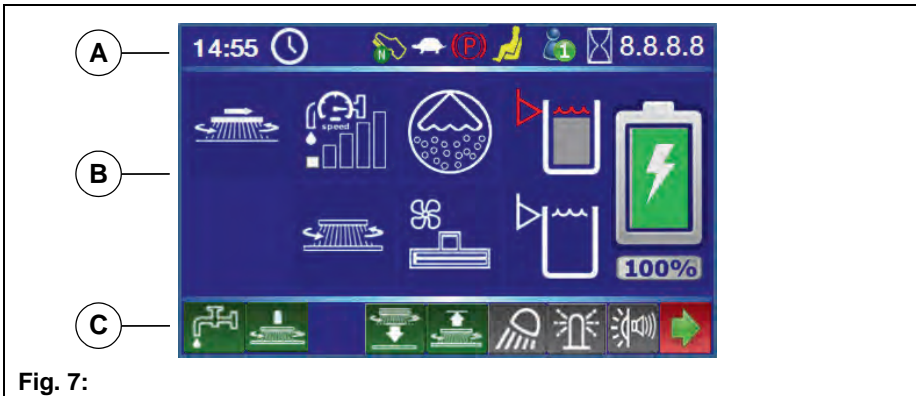

Fig. 7:
- Status level **Fig. 7-A**
- Function level **Fig. 7-B**
- Action level **Fig. 7-C**